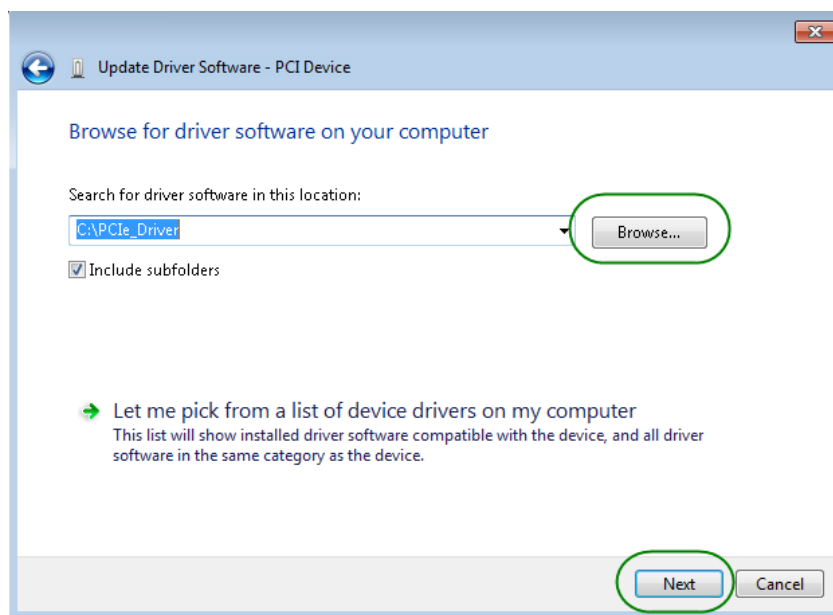

Figure 6-5 Browse for driver software on your computer
7. In the **Browse for driver software on your computer** dialog, click the **Browse** button to specify the folder where altera_pcie_din_driver.inf is located, as shown in **Figure 6-5**. Click the **Next** button.